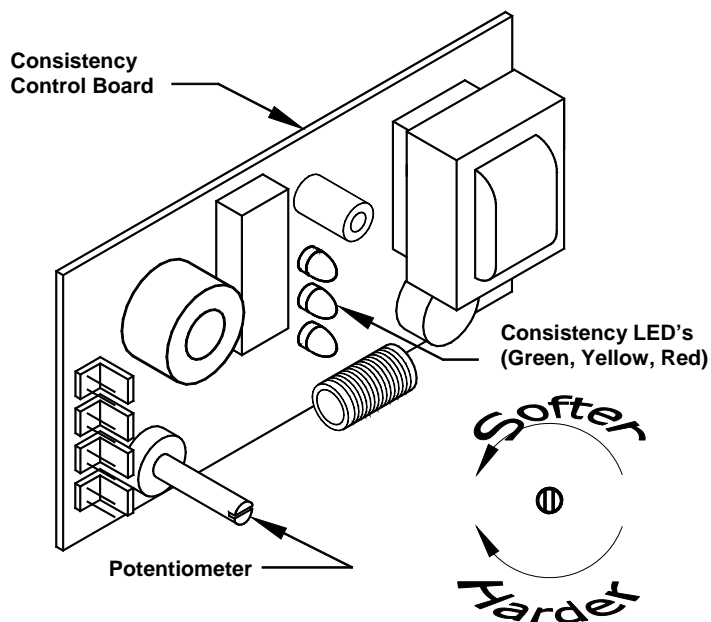

Fig. 29
3. Locate the three LED's - green, yellow, and red - Fig. 29. These are used as a reference point to adjust for proper consistency. Initially, all of the LED's are off. This indicates that the mix is too thin. The compressor will now come on. As the product thickens, the green, then the yellow, then the red LED illuminate. Two seconds after the red LED is illuminated, the compressor and dasher will shut off.
4. Using a small slotted and **insulated** screwdriver, turn the potentiometer (Fig. 29) clockwise to make the product harder or counterclockwise to make the product softer. **Note: The potentiometer is very sensitive. Adjust in small increments**